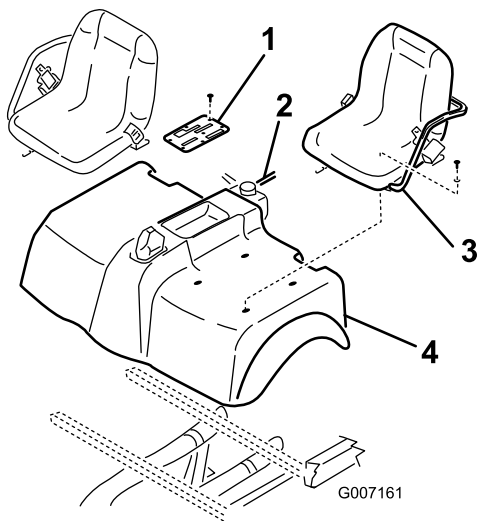

Figure 8
- Remove (6) screws securing outside edge of center console cover plate to frame and remove cover plate (Figure 8).
4. Disconnect the reservoir hose from the radiator and plug or clamp it to retain coolant (Figure 8). Remove the operator shield from the ROPS.
5. Remove the capscrews securing the seats and shroud to mounting brackets (Figure 8). Remove the seats and shroud.